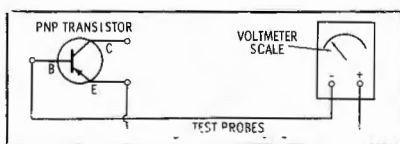

Fig. 4. Voltage test for stage conduction.
**Conduction check** — Conduction in a transistor stage can be determined by checking the collector voltage (Fig. 4) or the voltage across the emitter resistor. Compare readings with those in the equipment instruction book. A high collector voltage reading indicates too little conduction and a low reading too much. Across the emitter resistor, a high reading indicates too much conduction, and a low reading indicates